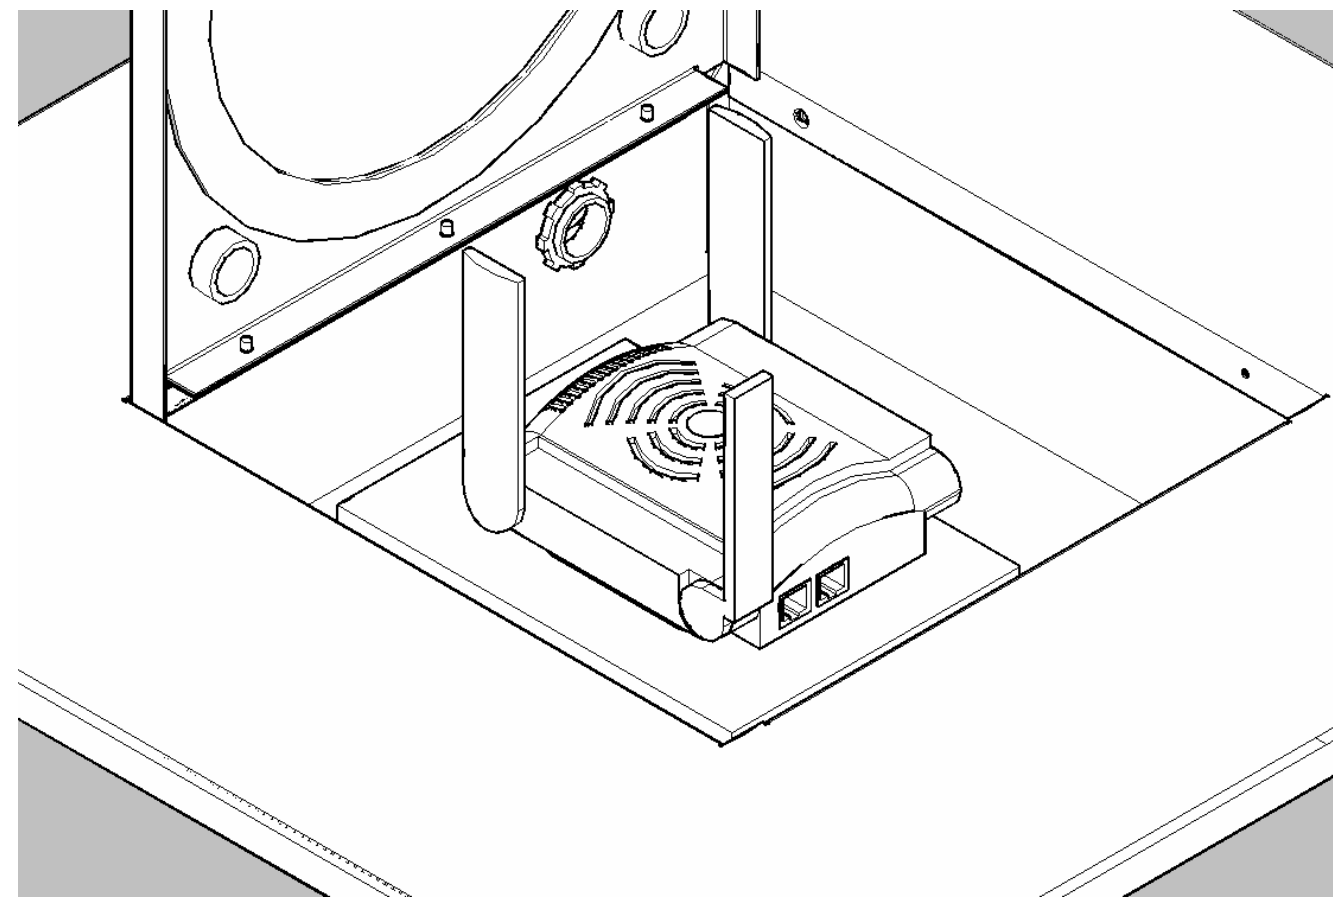

Figure 3 – Proper orientation of the Aruba AP in the 1055-AN enclosure
Step 3 – The Aruba access point is to be installed in the 1055-AN enclosure so that the side with two antennas is nearest the hinged side of the enclosure and the side with the single antenna and Ethernet ports are nearest the locking side of the enclosure (Ref. Figure 3).